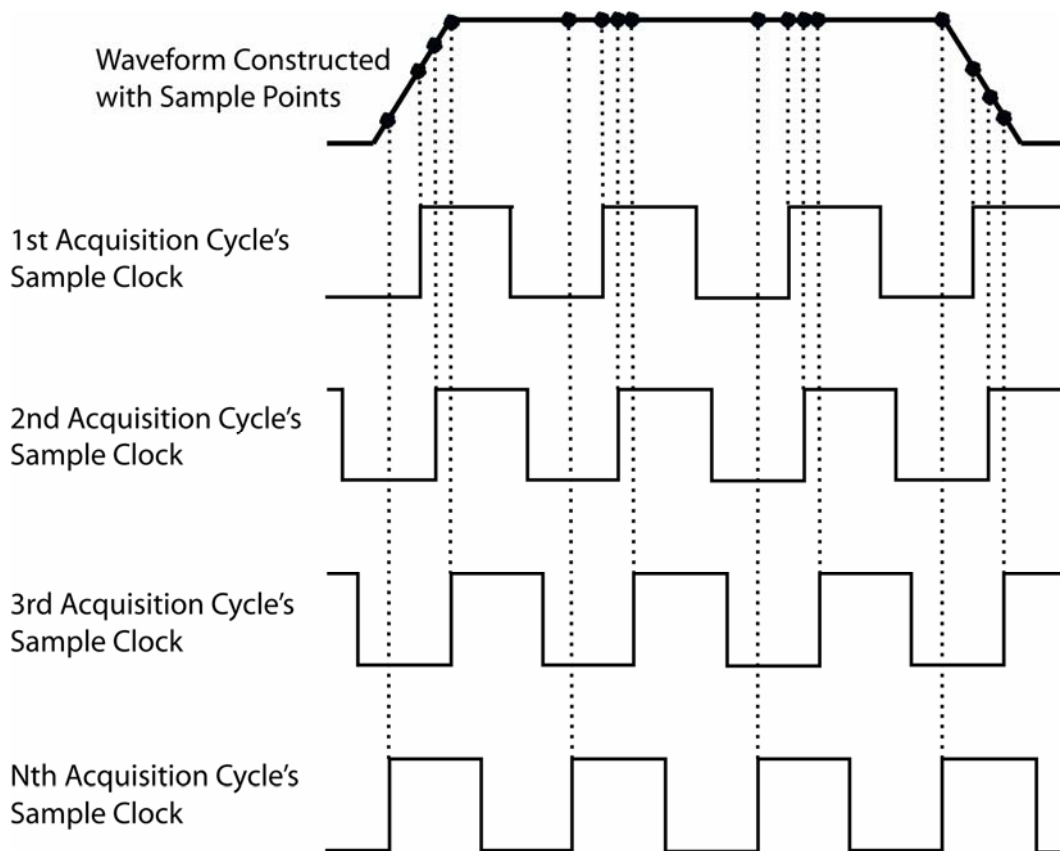

Figure 10: Equivalent Time Acquisition
- In Equivalent-Time mode, a picture of a repetitive waveform is constructed by capturing a little bit of information from each repetition. This enables waveforms to be reconstructed at equivalent-time sample rates greater than the real-time sample rate (See Figure 10). Because the points appear randomly along the waveform, it is important to note that an entire waveform may not be constructed unless there are sufficient repetitions. Also, the number of points per point (selectable from 2 to 100) can be set to increase the resolution of the waveform. (See the *Average Equivalent Time Points Command*).